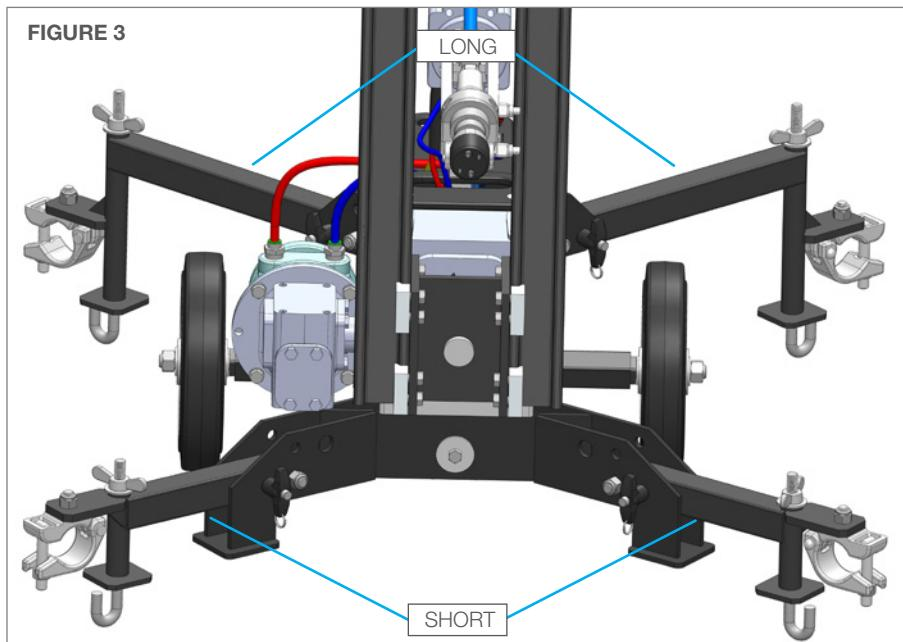

FIGURE 3
3. Confirm that the Short and Long Downrigger Legs are Installed where shown in (**Figure 3**).